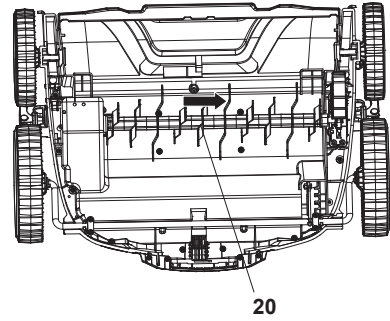

Fig. 8
3. Pull the scarifier drum (pre-assembled) (20) out of the hub (Fig. 8), then remove it by pulling sideways.